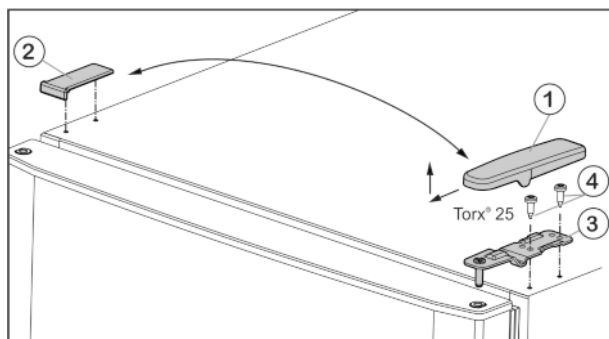

Fig. 5
- ▶ Pull off the cover Fig. 5 (1) forwards and upwards.
- ▶ Lift off the cover Fig. 5 (2).
- ▶ Unscrew the upper turn hinge Fig. 5 (3) (2x Torx® 25) Fig. 5 (4) and lift it off.
- Insert the upper turn hinge *Fig. 5 (3)* in the door on the new hinge side.
- Screw in the upper bearing block **tightly (with 4 Nm)** (2 x Torx® 25) *Fig. 5 (4)*. Use a cordless screwdriver if necessary.
- Fit the cover *Fig. 5 (1)* on the opposite side by sliding it rearwards and latching it into place.
- Press the cover *Fig. 5 (2)* on the opposite side down into place until it latches.